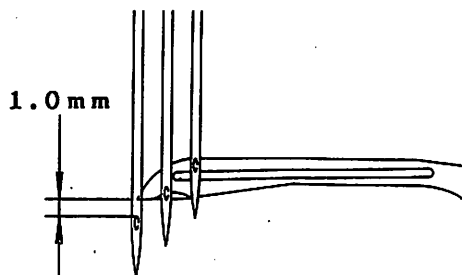

Fig.20
(2) Checking the position of looper and left needle
- * When the looper point is behind the left needle centerline, it should be 1mm above the top of the left needle eye. (Fig. 20)